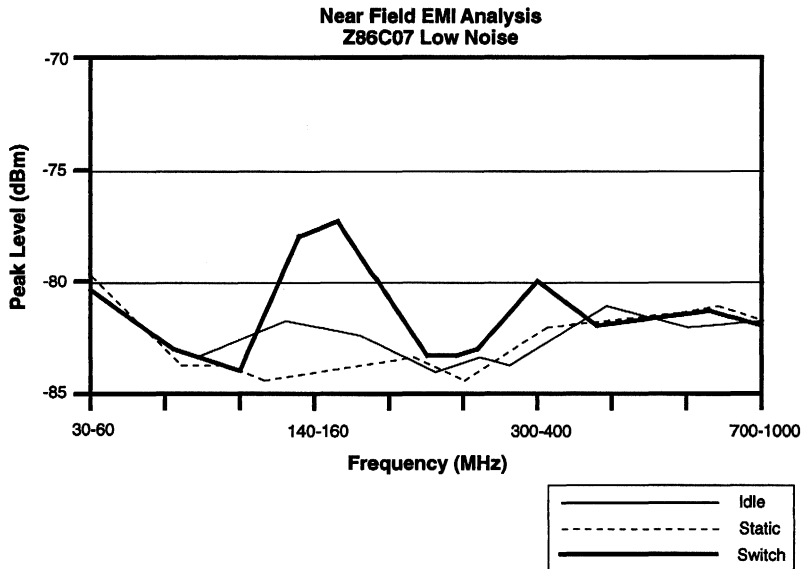

Figure 17. Low Noise Analysis
The measurements shown in Figure 17 were made while operating the Z86C07 in three states: (1) Idle condition; (2) static output; (3) switched output.